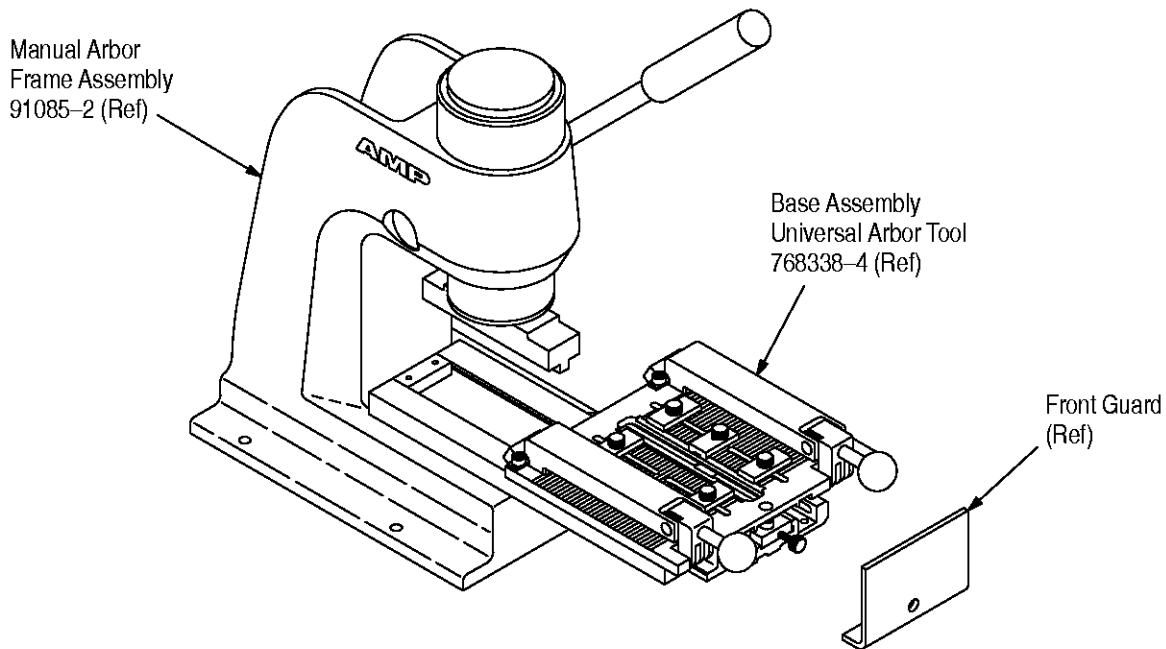

Figure 1
This instruction sheet covers the installation and setup procedures for AMP* Connector-Specific Kit 679177-2. The connector-specific kit is used in conjunction with Base Assembly Universal Arbor Tool 768338-4 and AMP Manual Arbor Frame Assembly 91085-2 (see Figure 1), or AMP Pneumatic Auto-Cycle Unit 91112-3 to terminate CHAMP .050 Series I Receptacle Connectors to 0.64 mm [.025 in.] centerline flat ribbon cable.
2. DESCRIPTION (Figure 1)